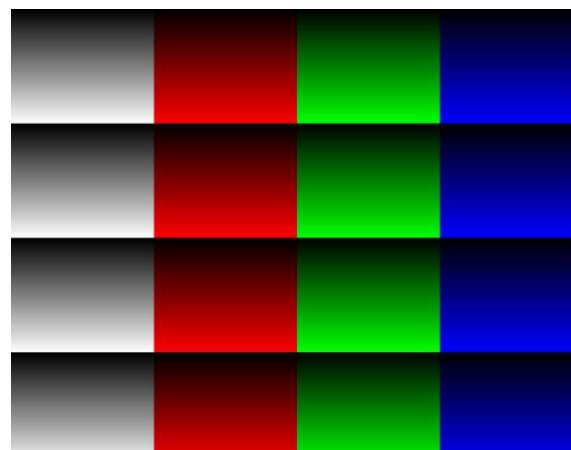

Figure 20 – Vertical color pattern
2. Vertical color ramp – vertical gradient of several color stripes, as shown in Figure 20.